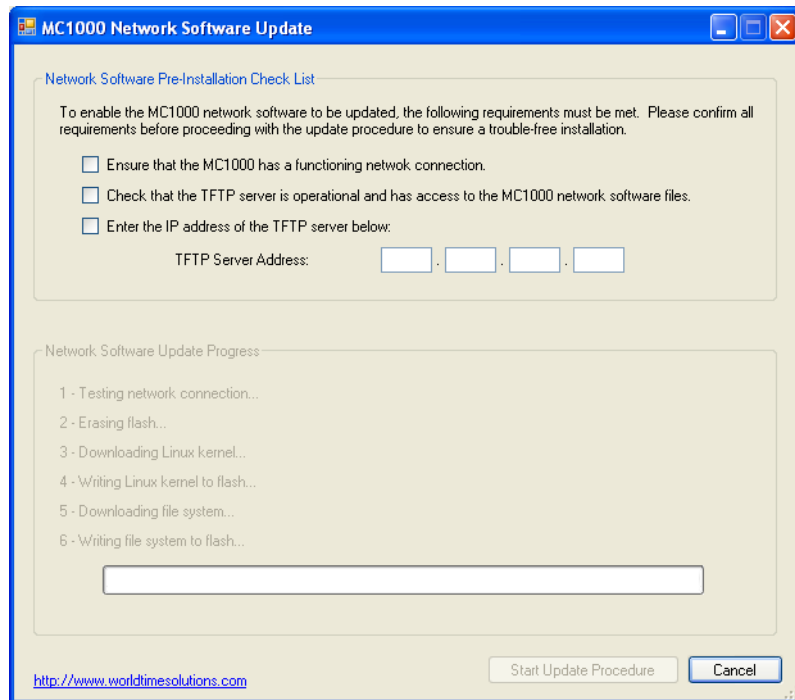

Figure 7.3 - MC1000 Network Software Update window
- In the section labelled 'Network Software', click on the 'Update Network Software Version' button. The 'Network Software Update' window will appear (*see figure 7.3*).